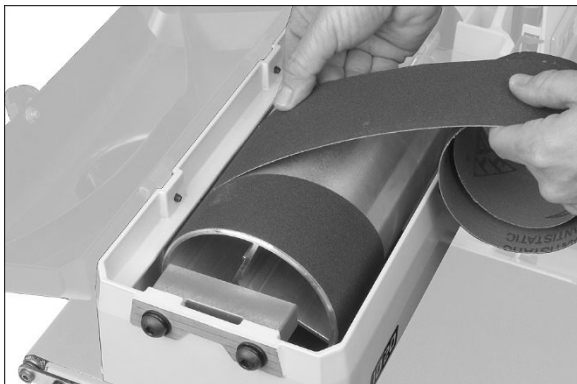

Figure 5-5
- Continue to wrap abrasive in spiral fashion by rotating drum with one hand and guiding strip with the other. See Figure 5-5.